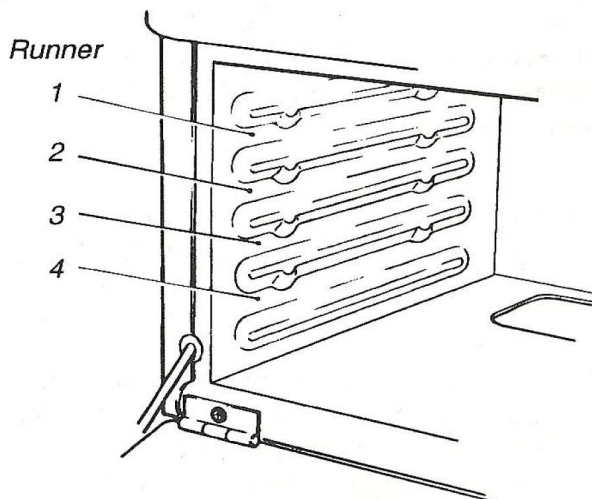

Fig. 19
- See Fig. 19 for Shelf Runner Positions. All cooking is done with the tray or tin positioned centrally on the shelf unless otherwise stated.